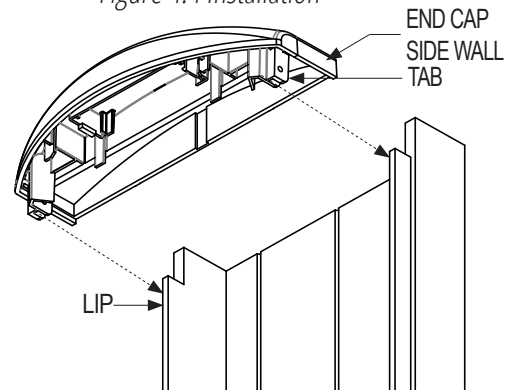

Figure 4.5 End Cap Alignment
16. Match and align the Back Box Lips to the End Cap Tabs, End Cap Side Walls. (Figure 4.5)